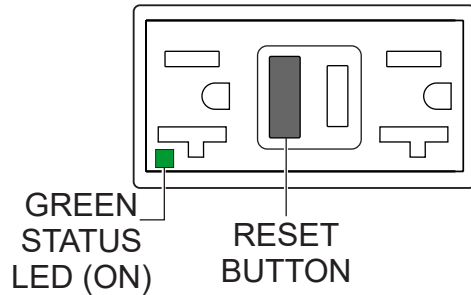

Figure 65. GFCI Receptacle (ON/Restore)
5. Press the **RESET** button (Figure 65) to restore power to the GFCI receptacle and verify that the status LED is **ON (GREEN)**.